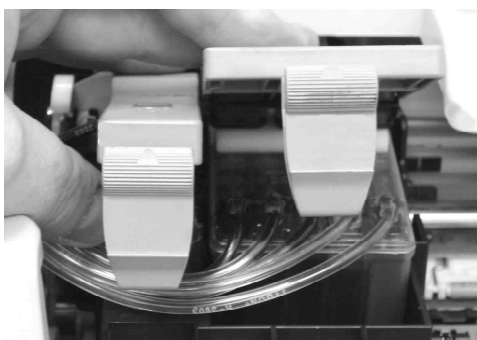
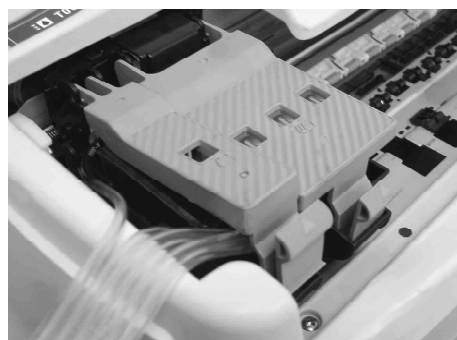

Fig. 5
Fig. 6
3. The tubing from the color cartridge fits in the space between the black cartridge and the black cartridge lid. The black tube will extend out beneath the black cartridge lid towards the back of the printer. See Fig 5 and Fig 6.